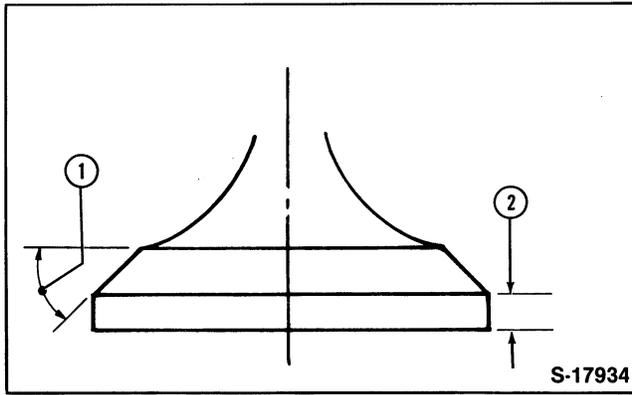

Figure 22
3. If inspection indicates that the valve may be re-used, the valve should be ground as shown, Figure 22.